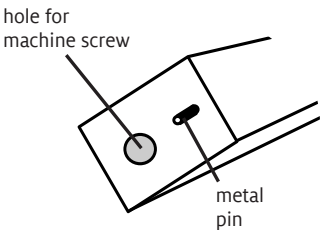

FIGURE 6: TREADLE SUPPORT
11. Attach the height extender blocks to the treadle assembly: insert the metal pins from the treadle support (Figure 6) into the small holes and the metal treadle bar ends into the 2nd hole from the bottom of the height extender blocks. Insert the saved barrel nuts into the treadle support and thread new 1/4-20 x 2-1/2" Phillips truss head machine screws into them, from the outer side of the height extender blocks through the bottom holes. Use a slotted screwdriver to hold the barrel nut in position. Secure the treadle support firmly.